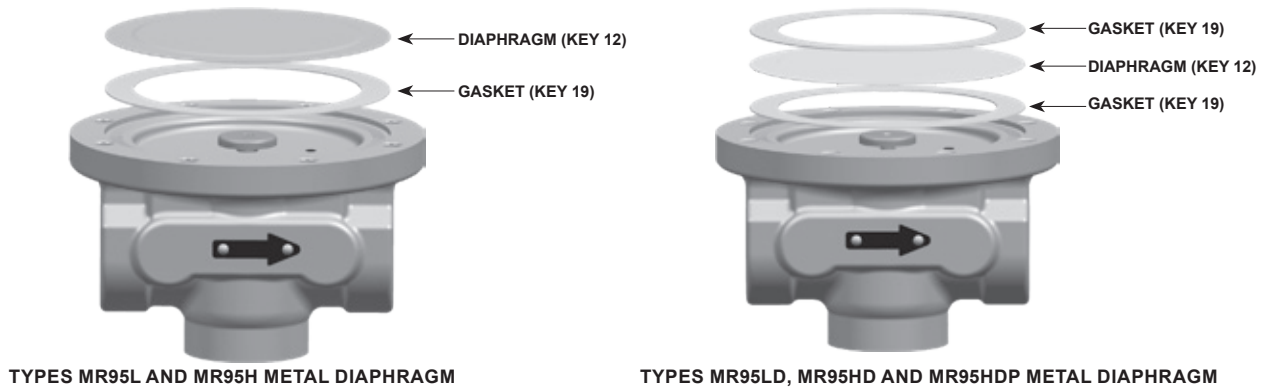

Figure 4. Diaphragm Assembly for MR95 Series with 1/4 NPT and 1/2 to 1 in. / DN 15 to 25 Body Sizes
The regulator does not have to be taken out of the pipeline to be disassembled. All key numbers are referenced in Figures 4 to 10.
10. If the unit has metal diaphragms (see Figures 4 and 5):
- a. (Applicable only for the lower diaphragm head of Types MR95H, MR95HT, MR95HD and MR95HDP, 1-1/2 and 2 in. / DN 40 and 50.) Find the pusher post (key 10) and place on a surface with the larger flat surface down and the thread stem up (metal diaphragm pusher post has a recessed diameter in the bottom surface). Then, find one smaller composition gasket (key 29) and fit it over the threaded end of the pusher post. Find and take one of the diaphragm heads and slip it over the threaded end of the pusher post with the chamfered side of the diaphragm head toward the gasket. Take a second gasket and place it over the threaded end of the pusher post on top of the diaphragm head.